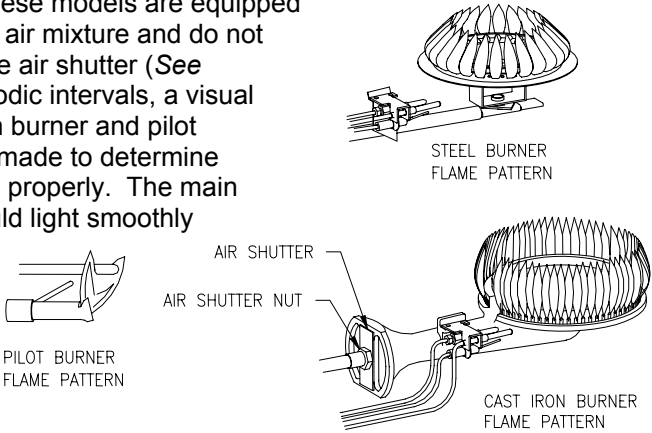

Figure 4
**Cast Iron Burner:** At the time of installation and at periodic intervals (not more than 6 months), a visual check of the main burner and pilot flames should be made to determine if they are burning properly. For ideal operation, the gas and air must be properly proportioned. The proper air-gas mixture is obtained by adjusting the air shutter on the mixer face of the main burner (See Figure 4). To adjust for proper burning, loosen the air shutter nut, rotate shutter to close the opening in the burner then slowly rotate the shutter until the yellow tips disappear and the flame becomes blue. Tighten the air shutter nut. Too much air will cause the flame to lift off the burner ports and create noisy operation. Too little air will result in soot formation. The main burner flame should light smoothly from the pilot.
**Steel Burner:** These models are equipped with self adjusting air mixture and do not have an adjustable air shutter (See Figure 4). At periodic intervals, a visual check of the main burner and pilot flames should be made to determine if they are burning properly. The main burner flame should light smoothly from the pilot.